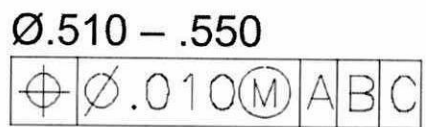

Figure Q1(c): A Feature Control Frame Example
- (b) Give two (2) reasons why CNC machines with similar axis may have different configurations. (6 marks)
- (c) Figure Q1(c) shows a feature control frame (FCF) that is used to represent a feature. Based on the figure, answer the following questions.
- (iii) If the tolerance in Figure Q1(c) is for a pin with 0.535 in diameter, state the total allowable tolerance. (3 marks)
- (iv) If the tolerance in Figure Q1(c) is for a hole with 0.540 in diameter, state the total allowable tolerance. (3 marks)